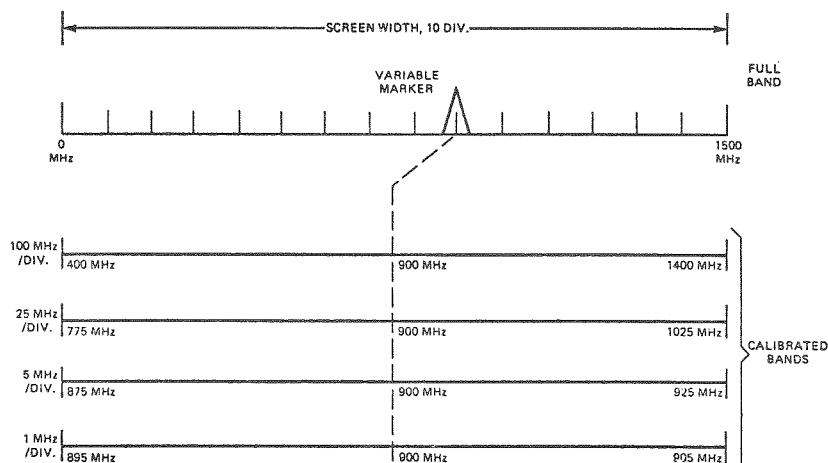

Figure 2-11. Selecting Center Frequency and Sweep Width
Figure 2-11 illustrates the ease with which the operator can select a frequency of interest, then switch to one of the calibrated ranges to expand the display about that point. In 2-11(A) the operator has selected FULL (1 to 1500 MHz) and then used the CENTER FREQUENCY to place a variable marker at 900 MHz. In 2-11(B) he has switched to a sweep width of 25 MHz per division and a marker spacing of 100 MHz. The 900 MHz marker is now centered on the display.
Figure 2-11(C) illustrates the frequency range if any of the 4 calibrated ranges had been selected. The variable marker does not appear when one of the calibrated high-resolution sweep ranges is selected.